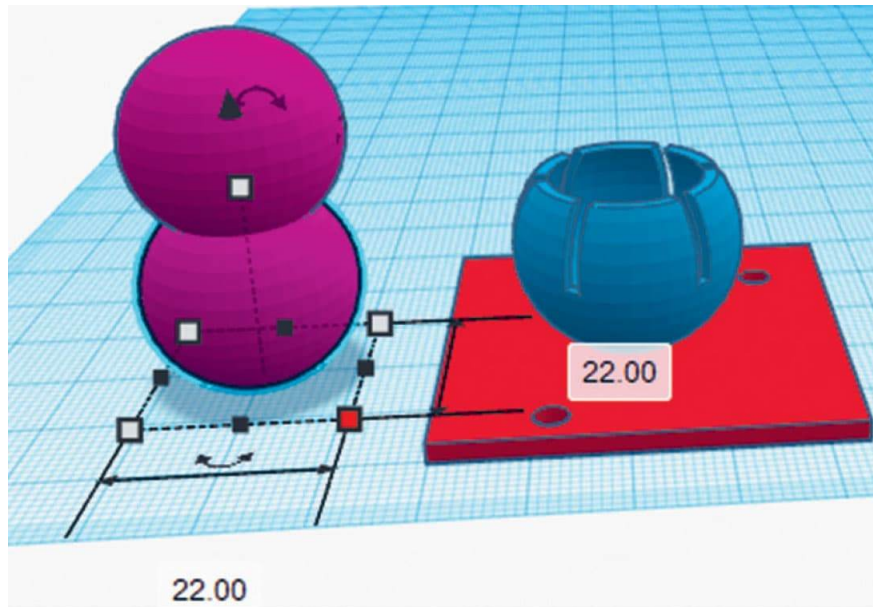

FIG. 1: Create a model of the shoulder using a ball-and-socket joint.
1. Create the shoulder joint. The shoulder joint is modeled using the ball-and-socket joint we created in Lab 15 (shown here). The socket inner diameter is 23 mm and the ball is 22 mm diameter in fig. 1.
a copy of it and resize to fit the smaller end of the upper arm as shown in fig. 1. The inner diameter of the elbow joint socket is 18 mm. The diameter of the elbow joint ball is 17 mm.